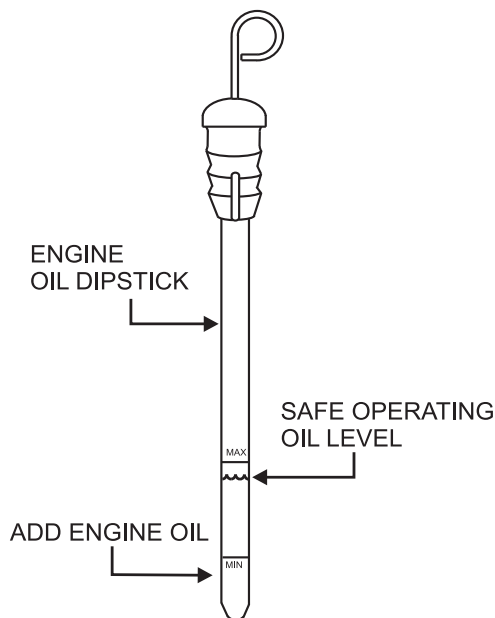

Figure 12. Engine Oil Dipstick
9. Pull the engine oil dipstick (Figure 12) from its holder.
10. Verify that oil level (Figure 12) is maintained between the two notches on the dipstick.